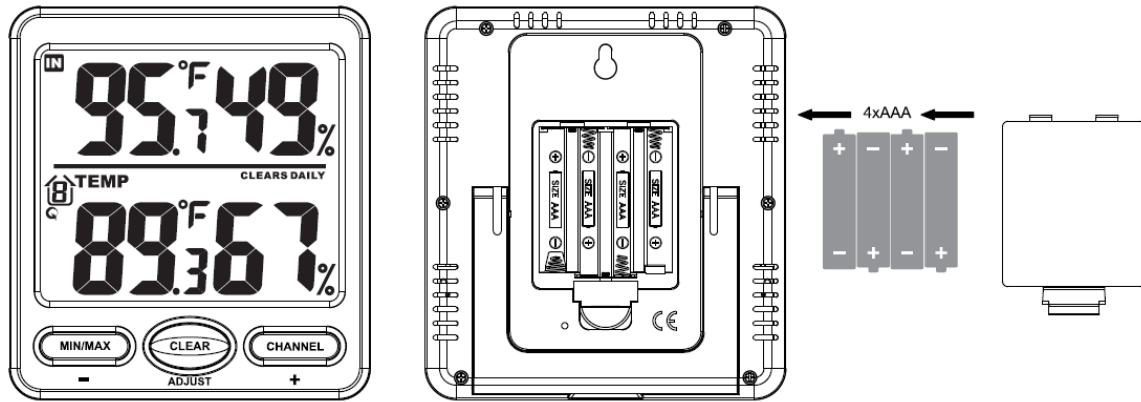

Figure 4
2. Remove the battery door on the back of the display, as shown in Figure 4. Insert four AAA (alkaline or lithium, avoid rechargeable) batteries in the back of the display console.